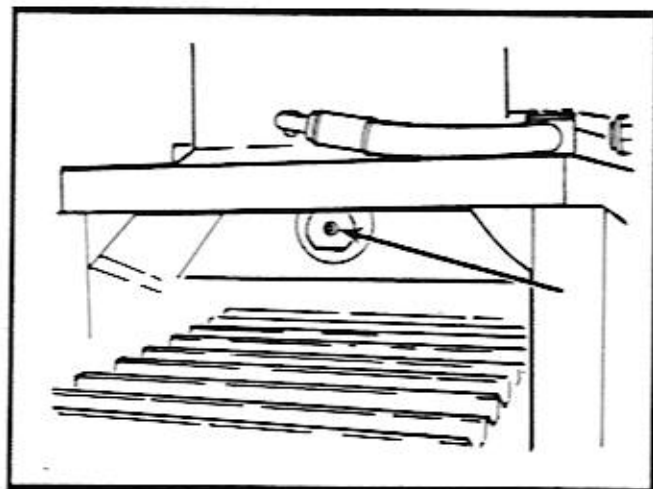

Figure 9-10. Jack Cylinder Bearings
Lubricate thru the four (4) fittings with two (2) shots of MPG-EP grease. The fittings are located on the under side of the bearing between the top of the track and the bottom of the jack cylinder. Refer to Figure 9-10.